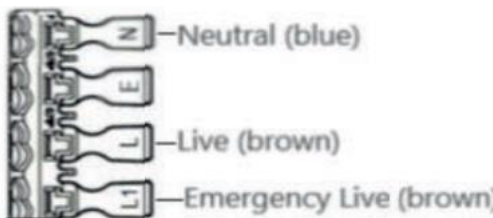

Fig. 1
- Ensuring correct polarity is observed, carefully wire as shown in Fig. 1. Two cables can be inserted into the push-fit terminal block in order to achieve loop-in/loop-out wiring. The earth terminal is non-functional and only provided for convenience